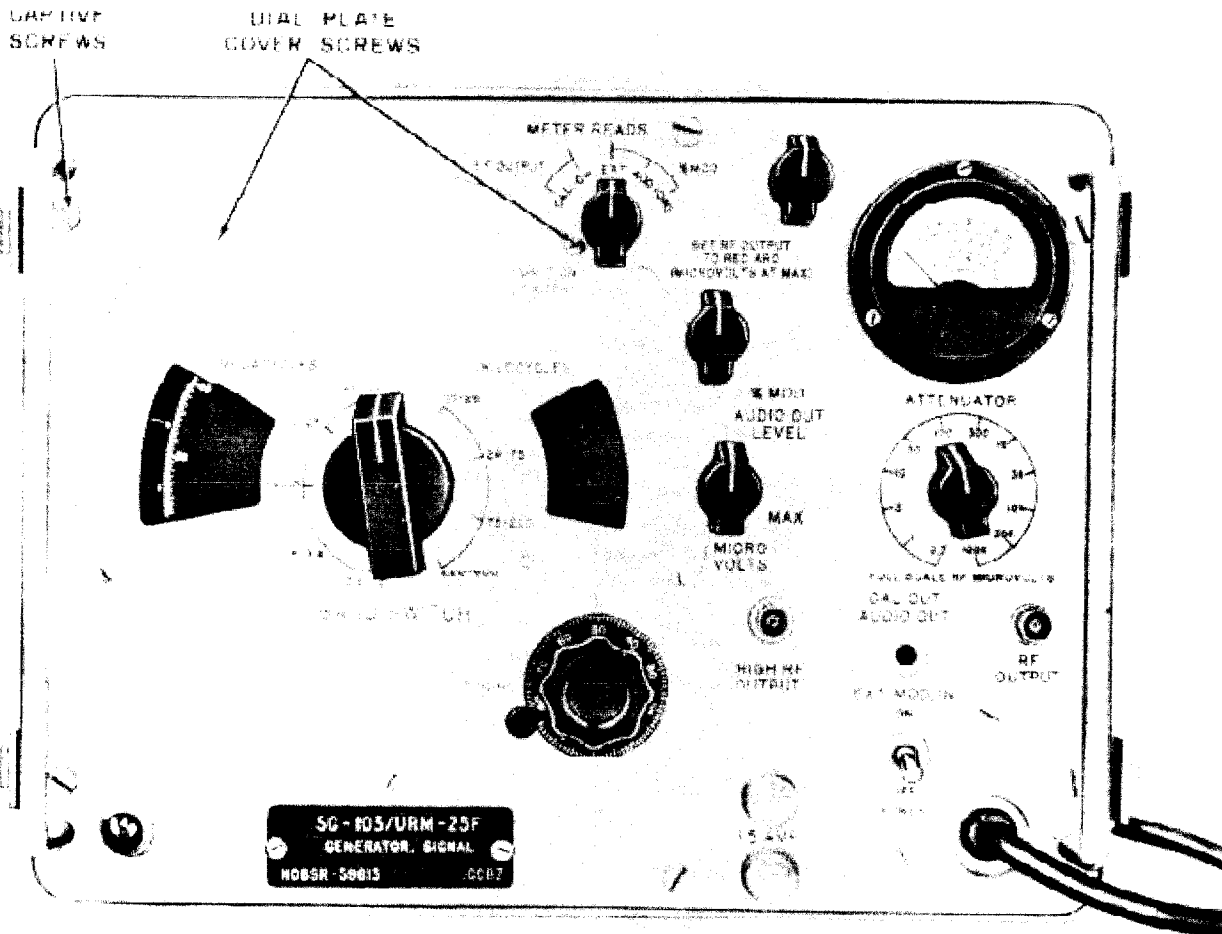

Figure 7-2. RF Signal Generator AN/URM-25F Front Panel
### 7. REMOVING THE SIGNAL GENERATOR FROM THE CASE. (See figure 7-2.)
(1) Loosen the six captive screws located around the outer edge of the panel. See figure 7-2.
(2) Gently pull the signal generator chassis about eight inches from the cabinet, using the lifting handles provided on the front panel. The generator unit cannot be completely removed since the interconnecting power cable is still connected to the power supply.
(3) Remove the power supply cable by pulling the power plug out of the power supply socket on the power supply sub-chassis. The generator may now be